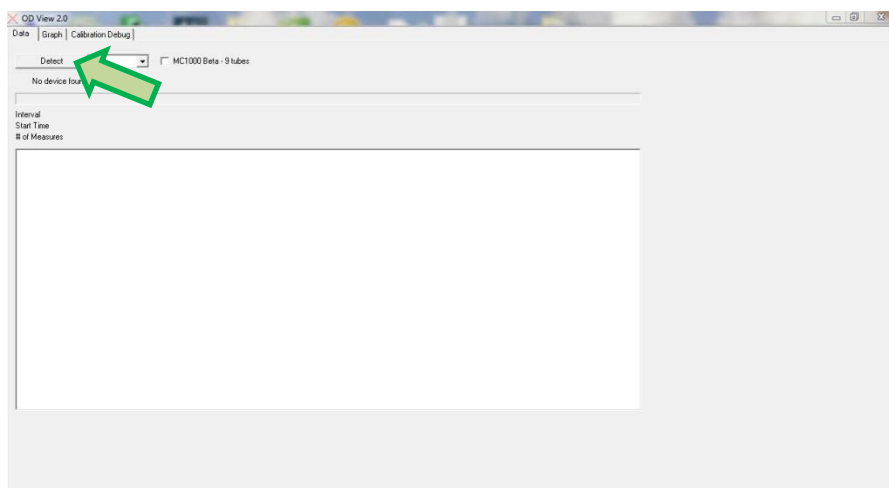

Fig. 21 The initial window of the ODView program
35. Copy the ODView software from the disc onto the PC computer first. Run the software. The initial screen will appear as shown in Fig. 21.